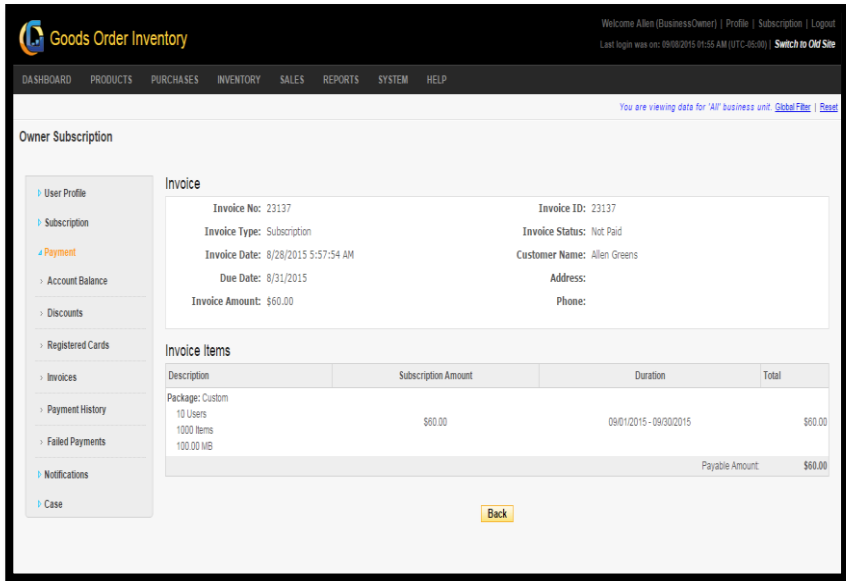

FIGURE 7.22.6
5. User can also see all the details related to Invoice by clicking on the Action icon adjacent to the specific Invoice. (Figure 7.22.6)